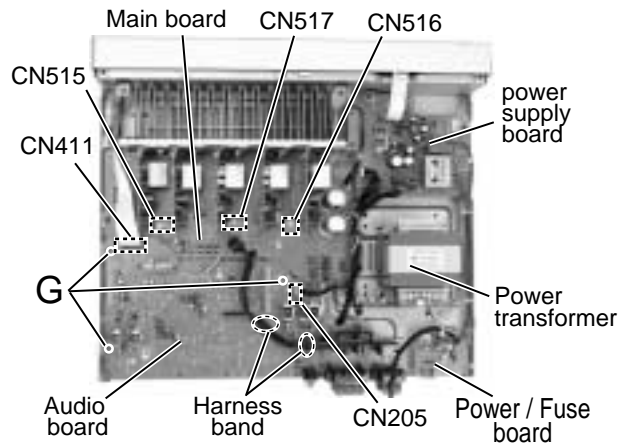

Fig.8
■ Removing the audio board (See Fig.8)